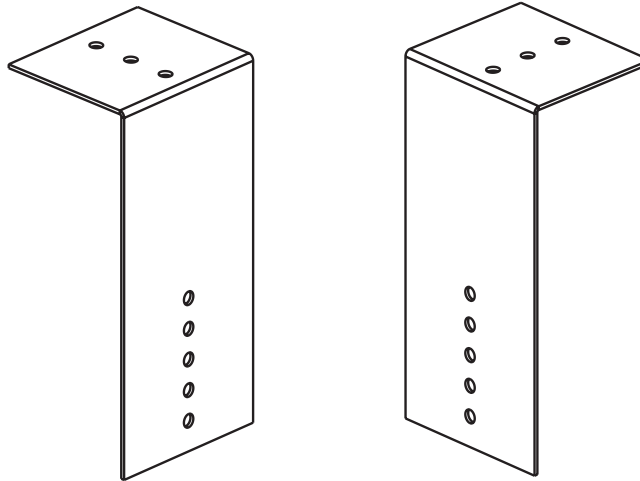

Figure 21. Concentric Adapter Box Brackets
4. Secure longer angles on concentric adapter box brackets (see Figure 21) to concentric adapter box.
- b. Position concentric adapter box to match pipe runs and secure short angles of concentric adapter brackets (see Figure 21) to underside of roof using field-supplied hardware.